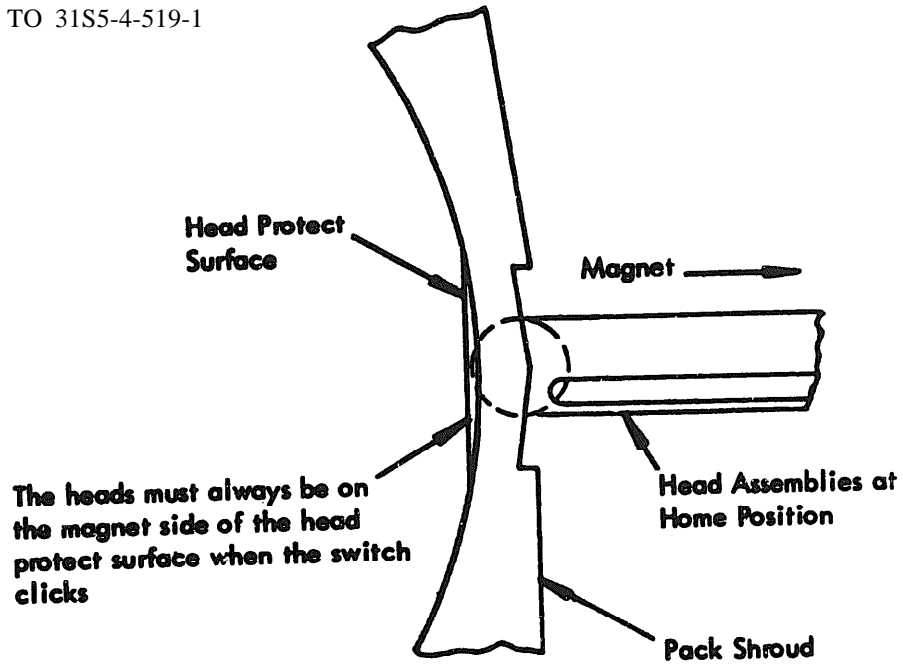

Figure 6-20. Home Switch Adjustment
- **Check the location of the heads to verify that they are on the magnet side of the head protect bracket. (See Figure 6-20).**